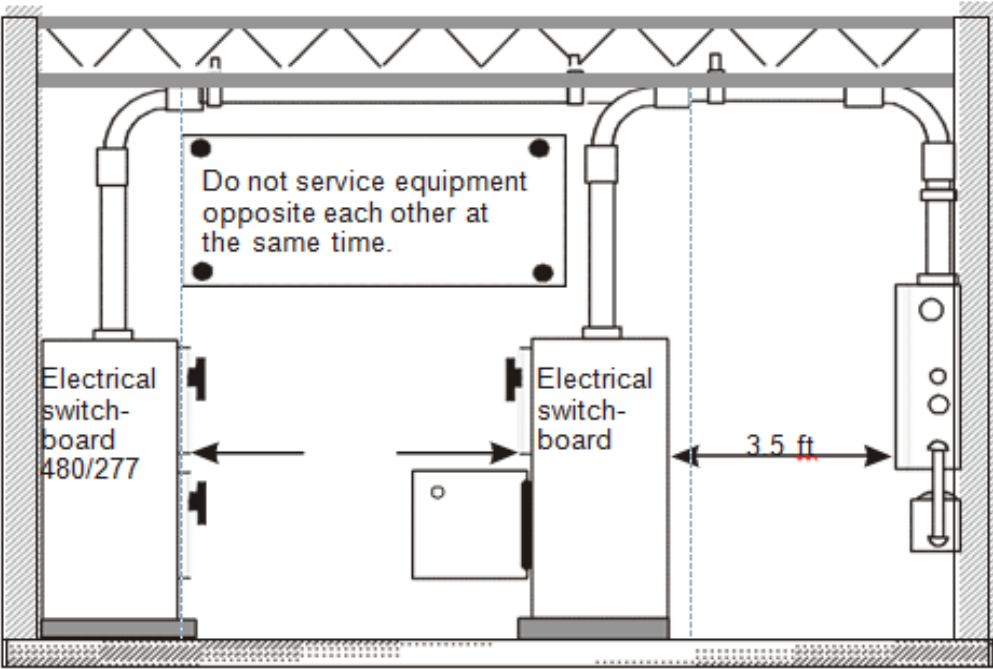

Figure 6.2 – Access and working space requirements around enclosures and equipment
- A.** Figure 6.2 and Table 6.4 provide access and working space distances around electrical equipment and enclosures, e.g., panel boards, motor controls, disconnects, etc., to permit ready and safe operation and maintenance. Keep working space clear at all times.